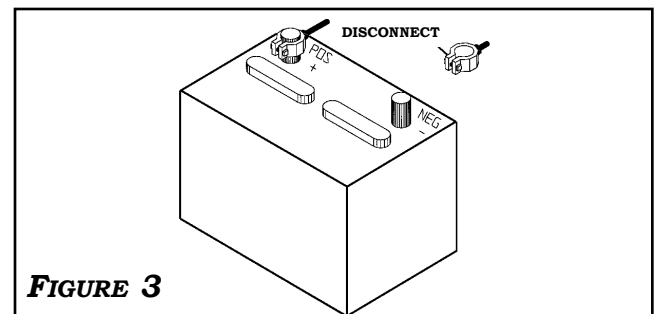

FIGURE 3
REMOVE THE NEGATIVE BATTERY CABLE BEFORE INSTALLING THE CRUISE CONTROL COMPONENTS FOR SAFETY PRECAUTIONS. **FIGURE 3**
1. RECONNECT NEGATIVE BATTERY CABLE AND TORQUE TO **35 IN LBS. FIGURE 3**